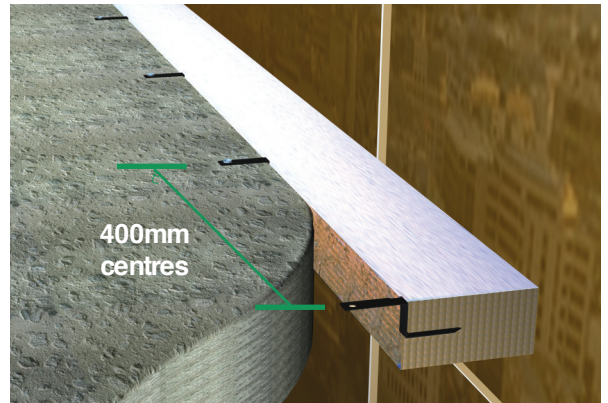

Figure 1 - 'z' clip fixing
- 6) Under compression, install the Intubatt 3 Eco seal. Where joints exceed 200mm width, steel support spikes ('z' clips) are required - install at 400mm centres as shown Figure 1. Mechanically attach z clip to top face of floor slab with suitable fixing.